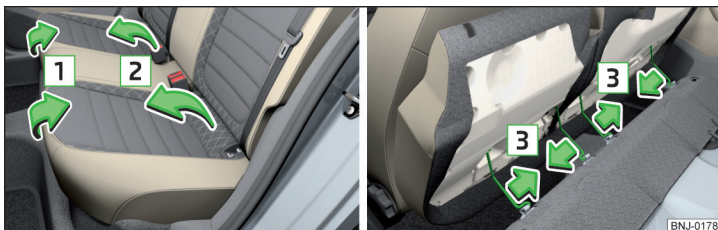

Fig. 60 Fold rear seat forward / remove split rear bench seat
- Fold the rear seat in the direction of arrow **1** » Fig. 60.
- Press the wire clips in the direction of arrow **3** » Fig. 60, so that they become detached from the holders.
- Insert the wire clips in the direction of arrow **3** » Fig. 60 and insert into the brackets.